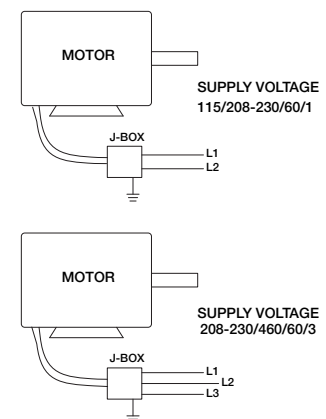

Figure 3 - Typical Wiring Diagram
**NOTE:** Refer to Figure 3 for connection wiring diagram.
6. Mount and wire safety disconnect switch either on the drive frame or outside on the curb cap and wire motor per wiring diagram on motor. Wire control switches at ground level. Refer back to Figure 3 for connection wiring diagram.